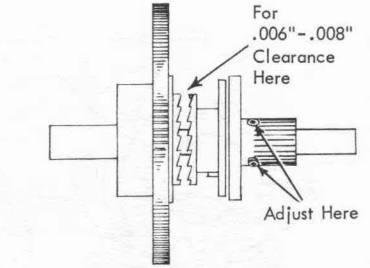

Figure 86. Clutch Gear Adjustment
1. Locate the clutch axially on the clutch shaft to give .006"-.008" clearance between the clutch faces with the clutch disengaged (Figure 86).